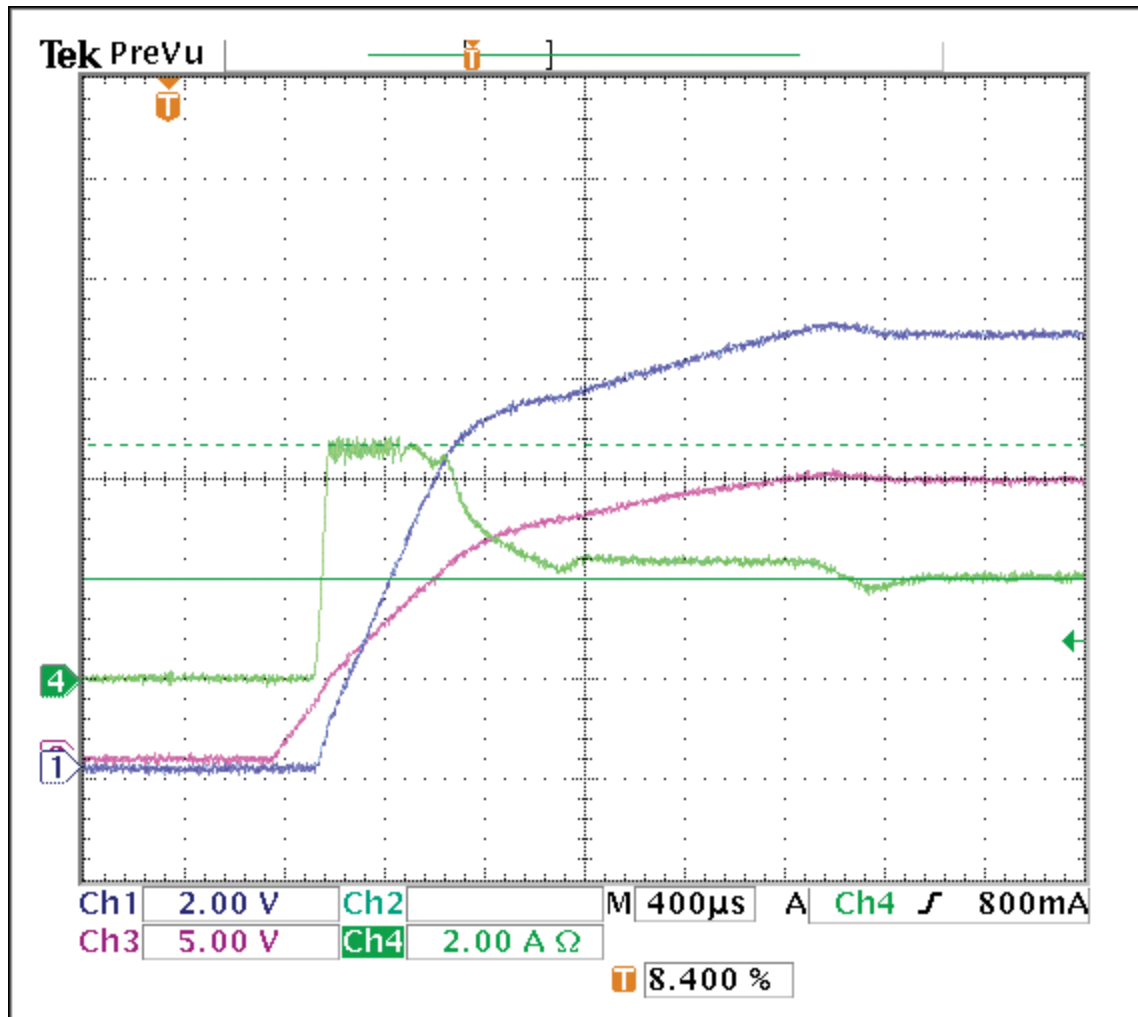

Figure 3. While the uncharged card is plugged in, you see voltage on the load (ch1), the power MOSFET gate voltage GATE2\_ (ch2), and the inrush current (ch4).
**Figure 3** shows the voltage on the load (Ch1), the power MOSFET gate voltage GATE2\_ (Ch2), and the inrush current (Ch4) while the uncharged card is plugged in. In this case, the load current is 2A; the load capacitor is 220 $\mu$ F.